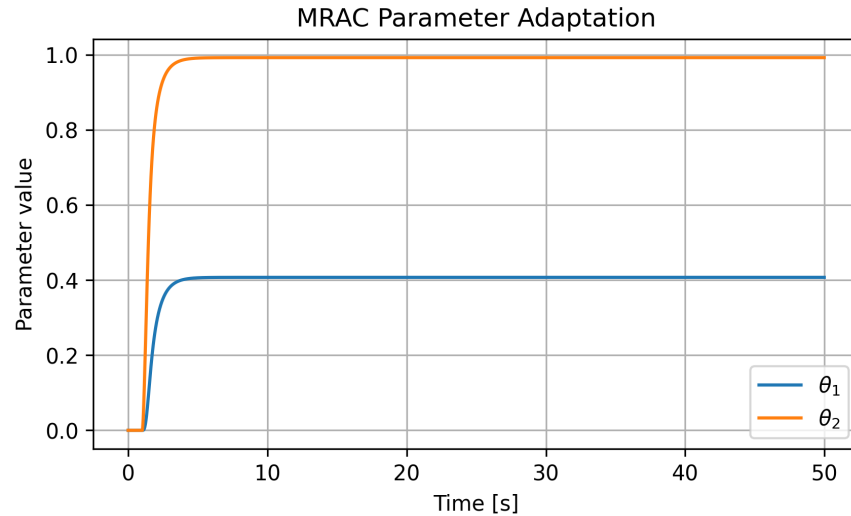

Figure 7.2: Parameter adaptation trajectories illustrating online learning.
3. Examine Figure 7.2 to monitor the evolution of  $\theta_1$  and  $\theta_2$ . Adjust the adaptation gain  $\gamma$  inside `tutorial_adaptive` to visualise the trade-off between convergence speed and robustness.